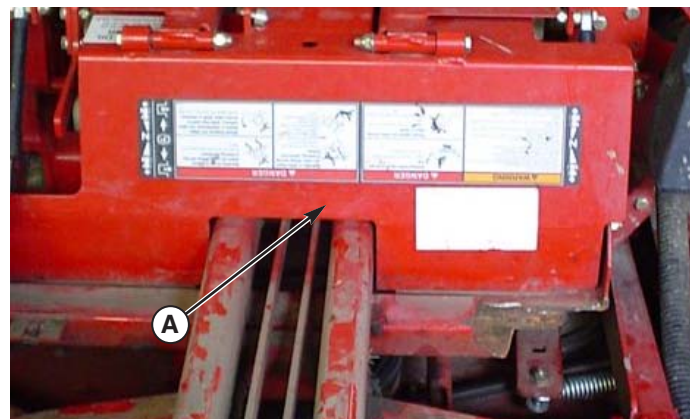

Figure 2. Remove Brake Plate
2. Remove the floor pan and the brake plate (A, Figure 2).